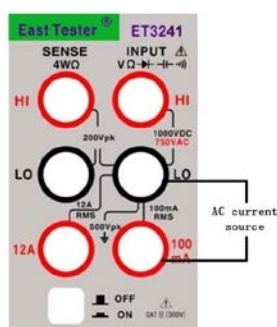
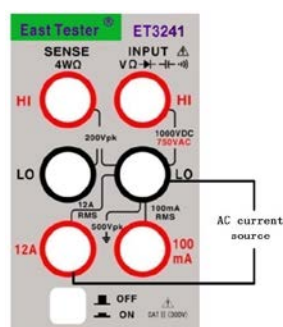

Figure 4-9 Wiring method for low current measurement
Figure 4-10 Wiring method for high current measurement
- Choose different test terminals according to the measurement level. See Figure 4-9 for current of 200mA(ET3241)/ 400mA(ET3241B)/ 500mA(ET3242)/ 600mA(ET3243)and below, and connect the red and black test leads respectively to the proper input terminals. See Figure 4-10 for current from 200mA (ET3241)/ 400mA(ET3241B)/ 500mA(ET3242)/ 600mA(ET3243) to 12A, and connect the red and black test leads respectively to the proper input terminals.